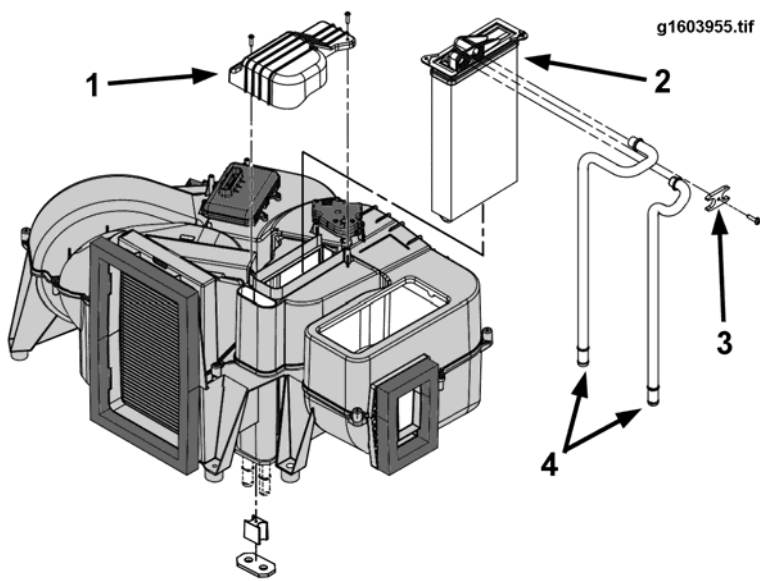

Figure 55 Rear Heater Core Installation
5. Remove the 2 screws securing the heater core cover (1, Figure 55). Remove the cover.
6. Remove the clamp plate (3, Figure 55) securing the heater core inlet and outlet tubes. Disconnect the tubes from the core, and rotate them out of the way.
7. Remove the heater core (2, Figure 55).
8. If necessary, remove the heater core inlet and outlet tubes (4, Figure 55).
1. If the heater core inlet and outlet tubes were removed; note the position of the foam spacer and seal (below the housing), then carefully install the heater core inlet and outlet tubes (4, Figure 55) and rotate them out of the way.
2. Install the heater core (2, Figure 55).
4. Install heater core cover (1, Figure 55) and secure with 2 screws.
7. Remove the rear heater core and heater core inlet/outlet tubes (Figure 55), as follows:
5. Install the rear heater core and heater core inlet/outlet tubes (Figure 55), as follows.